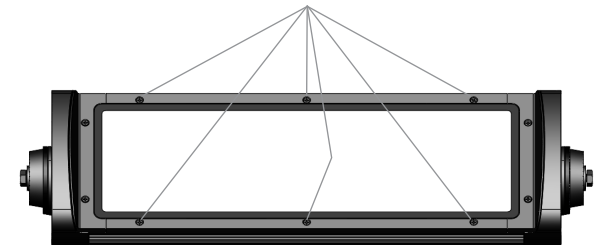

Fig 2
- 2) Fasten the Spread Lens Holder down onto the Lazer fixture using the six flat head screws provided. The SPH screw holes are countersunk so the screw heads finish flush to the lens holder. Tighten evenly alternating opposite sides. **Fig 2**